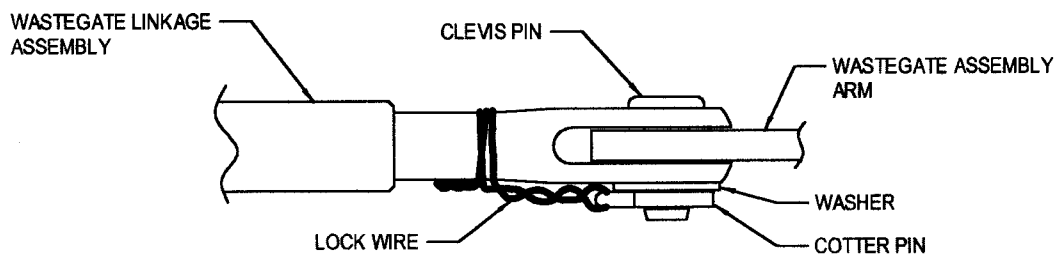

FIGURE 3
- c. If the detent breakaway force is correct, reinstall the wastegate linkage assembly. Install a lock wire (MS20995C32) through the eye of the cotter pin used to secure the clevis pin and washer at the linkage assembly and wastegate arm connection (Refer to Figure 3). Terminate the lock wire around the linkage assembly clevis. The lock wire prevents the clevis pin from rotating and extends the service life of the clevis pin, wastegate linkage assembly, and the wastegate